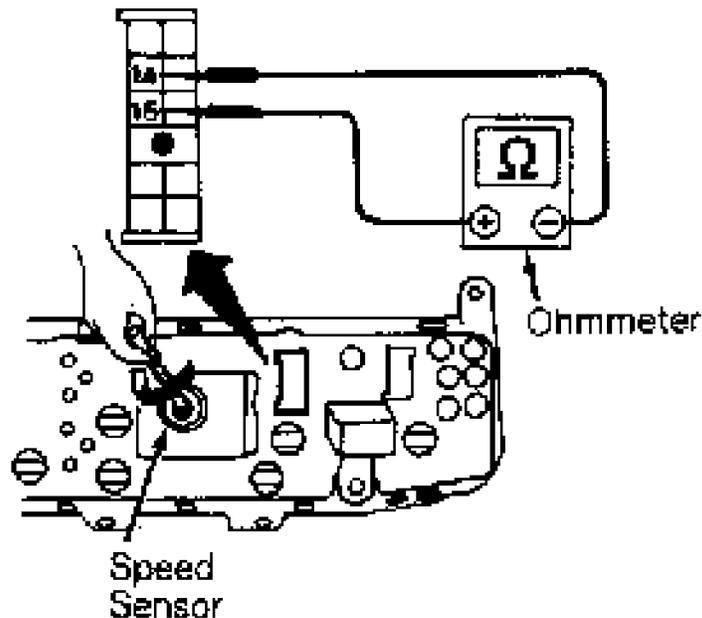

Fig. 21: Testing Speed Sensor Continuity (G20)
2) While slowly rotating sensor using screwdriver, use an ohmmeter to check continuity between terminals No. 14 and 15. See Fig. 21. Continuity should exist twice for each revolution. If continuity is not as specified, replace sensor as necessary.